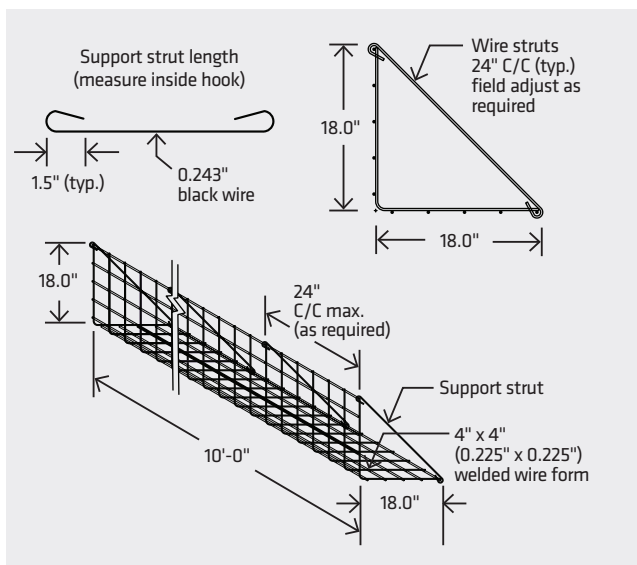

FIGURE 1: Standard 4 in. x 4 in. welded wire form.
- ▶ Tensar® Uniaxial (UX) and Biaxial (BX) Geogrid soil reinforcements which are to be field cut by the Contractor to the various lengths required per the Drawings.
- ▶ Welded Wire Forms (WWF) (if required) - Standard 4 in. x 4 in. wire forms or Strut Indicator Forms (SIF). Figures 1 and 2.